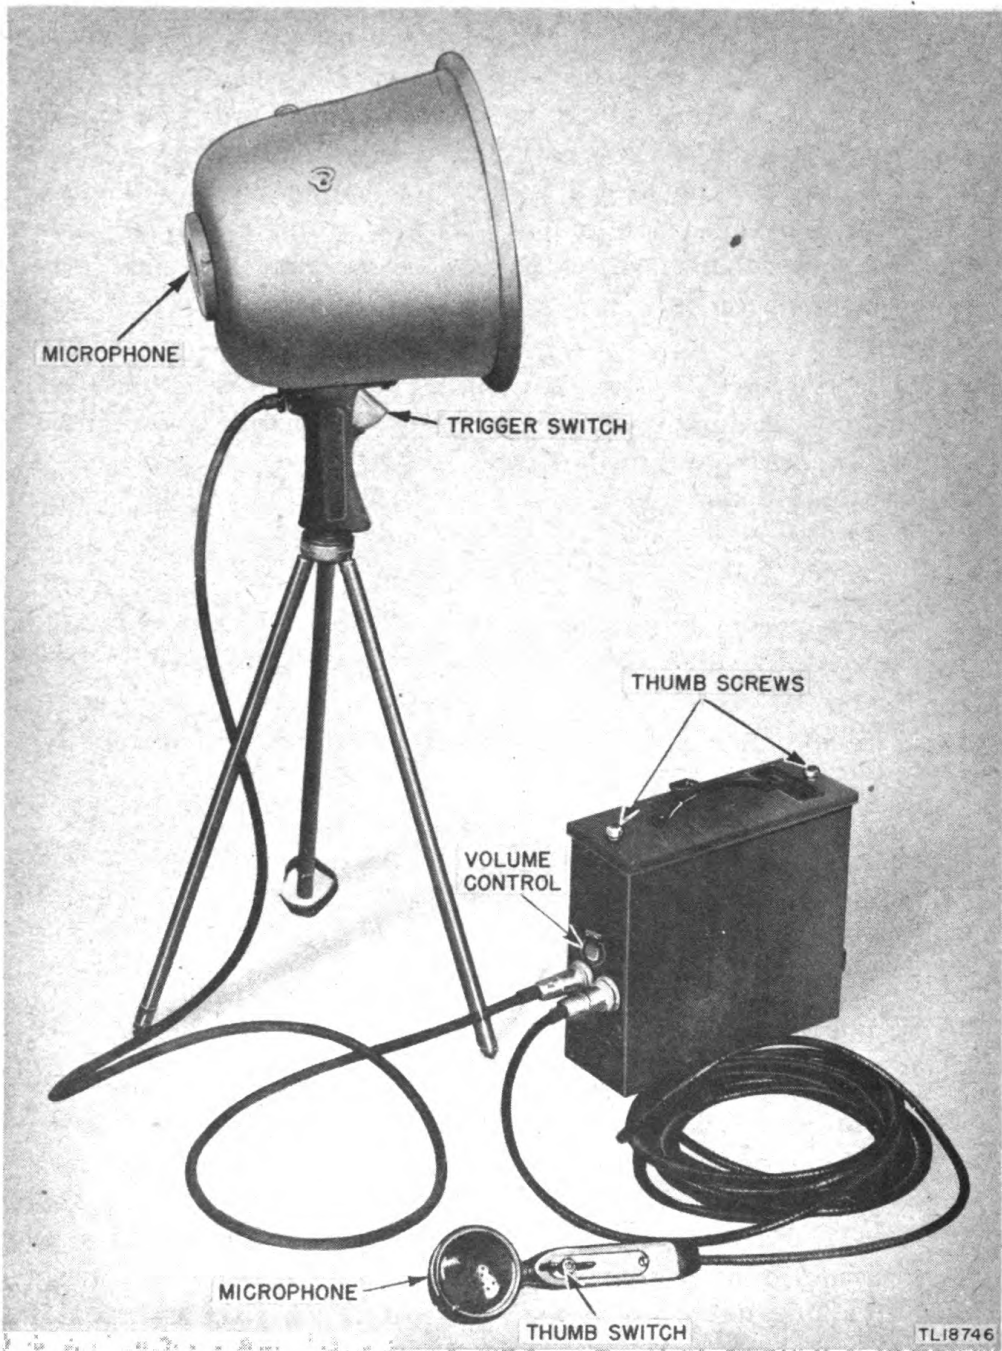
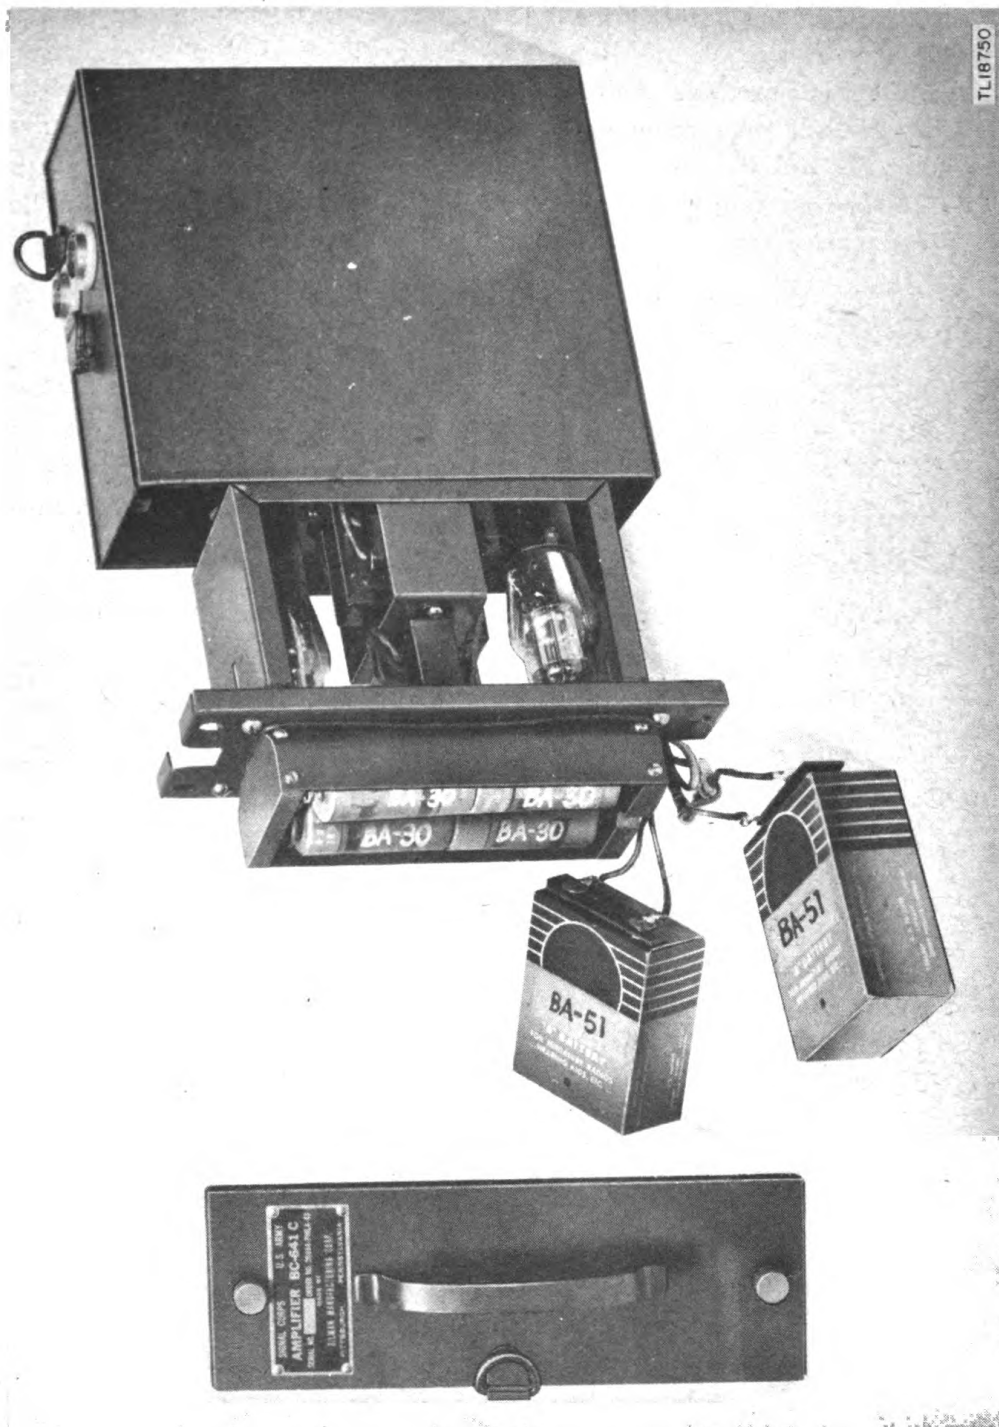

Figure 2. Public Address Equipment PA-4-C, assembled with Tripod M-230 and Microphone T-36-C
Figure 6. Amplifier BC-641-C, showing chassis and method of connecting Batteries
Microphone T-36-C consists of a carbon type microphone unit (same as used in Loudspeaker LS-6-C) assembled in a hand housing fitted with a thumb operated switch (86) (figs. 2 and 4). The operation of Microphone T-36-C is accomplished by moving the switch arm to either the left or the right with the thumb. The system is non-operative when this switch is released. A 24-foot 3-conductor cord with connector (89) is attached to the handle of Microphone T-36-C for connecting this unit to Amplifier BC-641-C.
This tripod is used as a mounting for Loudspeaker LS-6-C by screwing the tripod into the drilled and tapped hole at the bottom of the handle on Loudspeaker LS-6-C (figs. 2 and 4).
(1) Remove the cover from Amplifier BC-641-C by unscrewing the two knurled thumb screws, (it is not necessary to remove the knurled thumb screws entirely). (See fig. 2.)
(2) Insert four Batteries BA-30 in the "A" battery compartment as shown in figure 6.
- (3) Install two Batteries BA-51 using the connectors (see fig. 6). These connectors are of the polarized type and installation cannot be made incorrectly.
- (4) Place the two Batteries BA-51 with connectors attached, on top of the "A" battery compartment.
- (5) Place the cover over the amplifier case using the knurled thumb screws to fasten it securely.
- (6) Attach connector on the end of the cable of Loudspeaker LS-6-C to the socket on the case of Amplifier BC-641-C (fig. 2) fastening the plug securely with the locking nut on connector.
a. Operation is instantaneous. Press the trigger switch (55) (see fig. 2) on the handle of Loudspeaker LS-6-C, and speak into the microphone (61) mounted on the back of Loudspeaker LS-6-C. Best results will be obtained by speaking close to the microphone.
b. To operate Microphone T-36-C attach the connector (see fig. 2) of Microphone T-36-C to the socket on the case of Amplifier BC-641-C. Operation of Microphone T-36-C is instantaneous upon throwing the thumb switch. Both microphones can be used at the same time, or either of them can be used alone.
- c. Unscrew the four corner screws of the internal dividing plate. The complete chassis with "A" battery compartment can then be removed as a complete unit (fig. 6).